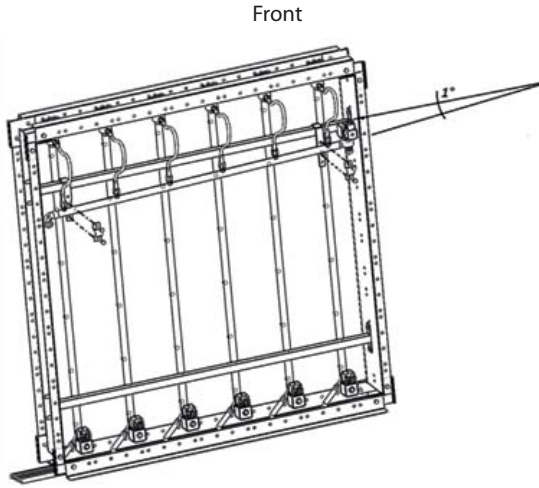

Fig. 3.b
4. the positions of the nozzles and the plugs on each manifold (Fig. 3.b)..